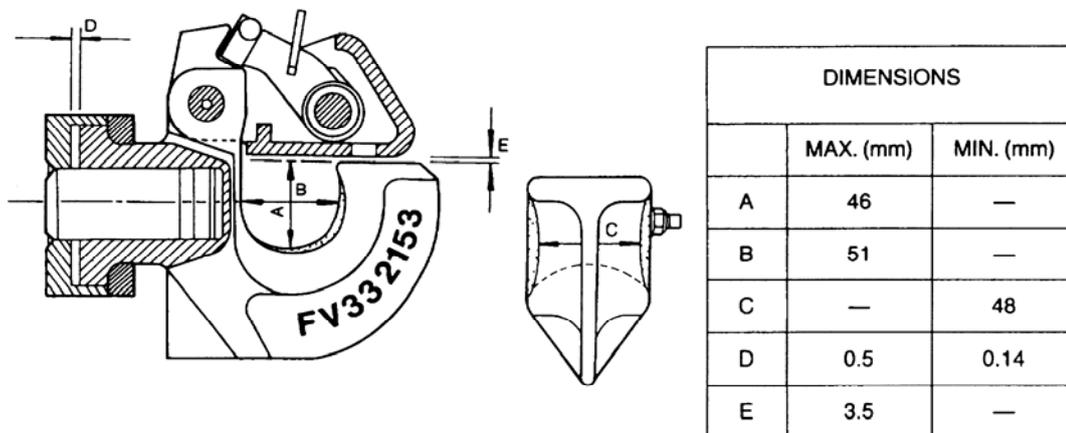

Figure 8 Towing Pintle Wear Limits
The wear limits shown in Figure 8 are only to be used in conjunction with tow coupling Part No. FV332153. For the wear limits of all other towing pintles refer to EMEI Vehicle G 008-1.
29. Cleaning and Inspection. Clean all parts in a suitable cleaning agent and inspect for excessive wear (refer Figure 8). Replace worn parts as necessary.